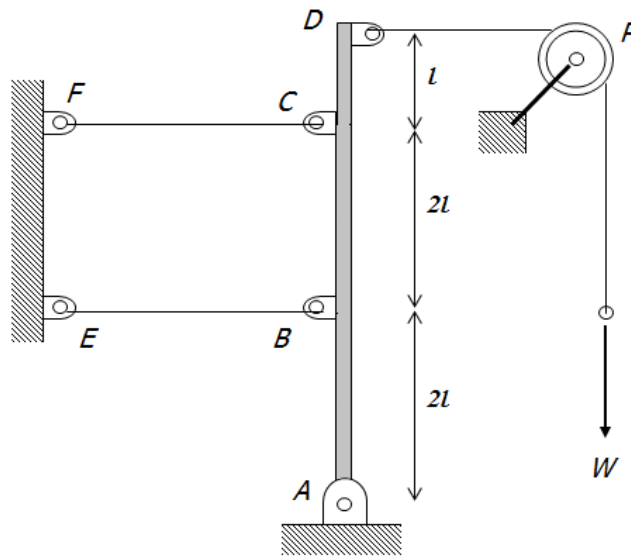

Figure Q2
2. A rigid mechanical component as shown in Figure Q2 is hinged at point A and held by two cables, BE and CF, point D is horizontally connected by another cable to a load, W , downward through a pulley P.